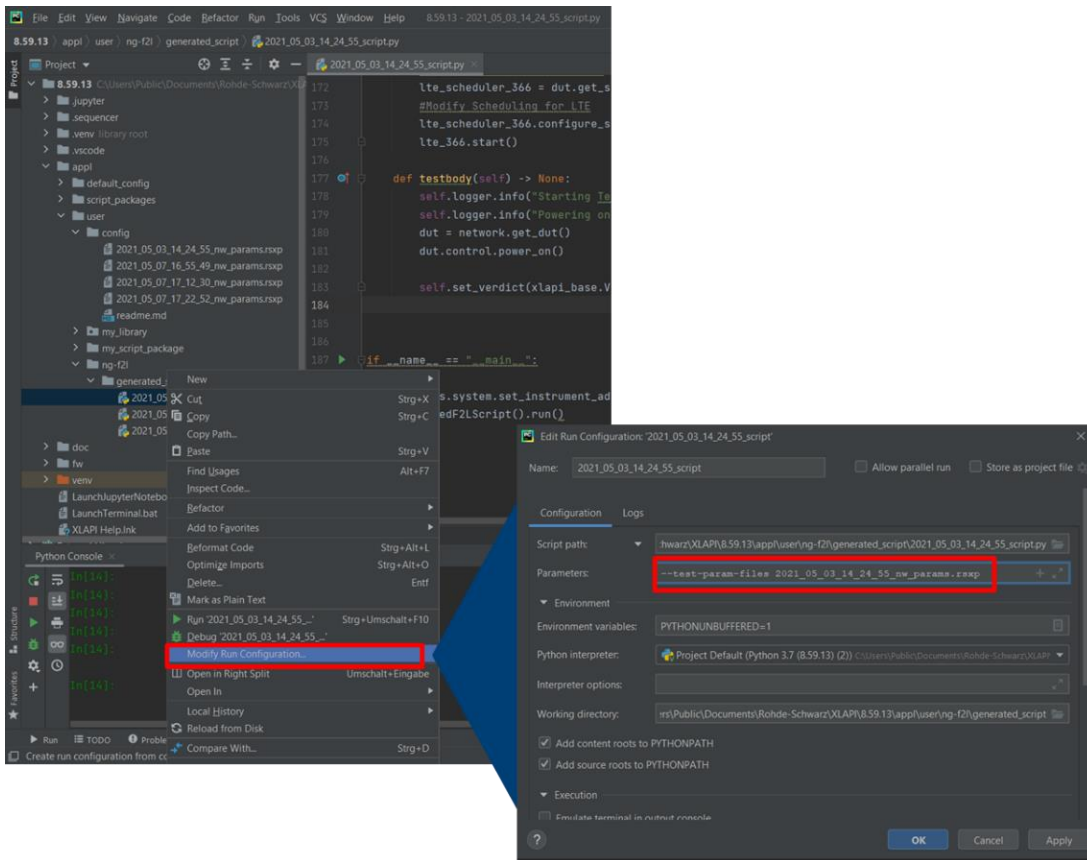

Fig. 2-21 Configure the network configuration file
1. Specify the network configuration file (Fig. 2-21)